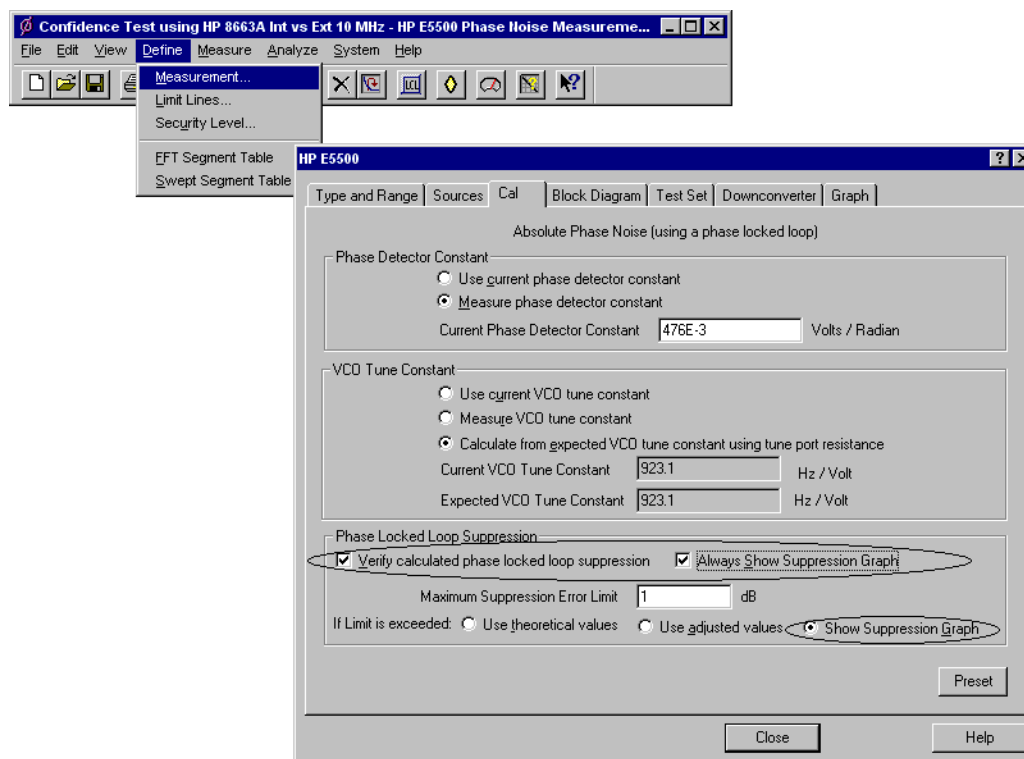

Figure 7-26 Selecting Loop suppression Verification
- 1 Using Figure 7-26 as a guide, navigate to the **Cal** tab.